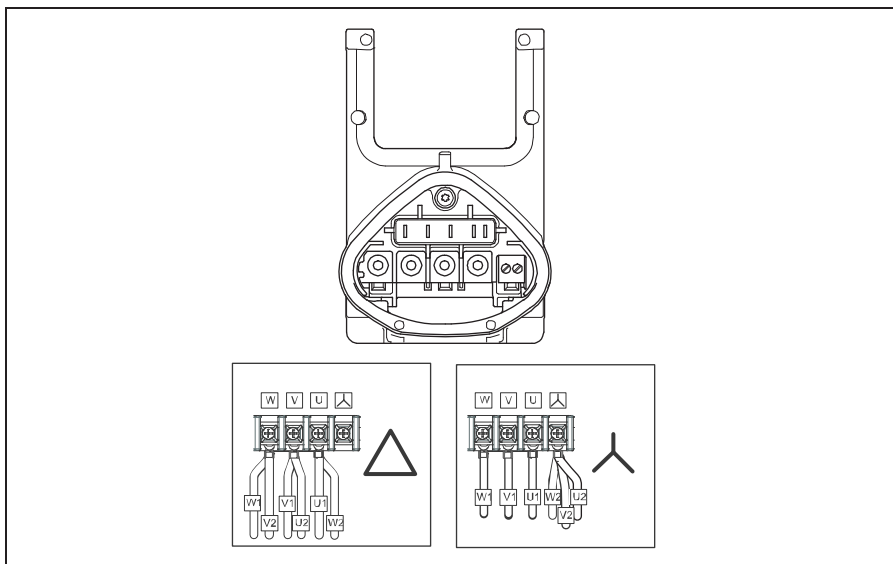

Fig. 5: Star or triangle connection for drive controls integrated in the motor
8. Attach the motor wires in the correct circuit, see also Fig. 5 (torque: 3.0 Nm). We would recommend using insulated M5 annular cable sockets with a connection cross-section of 4 to 6 mm².